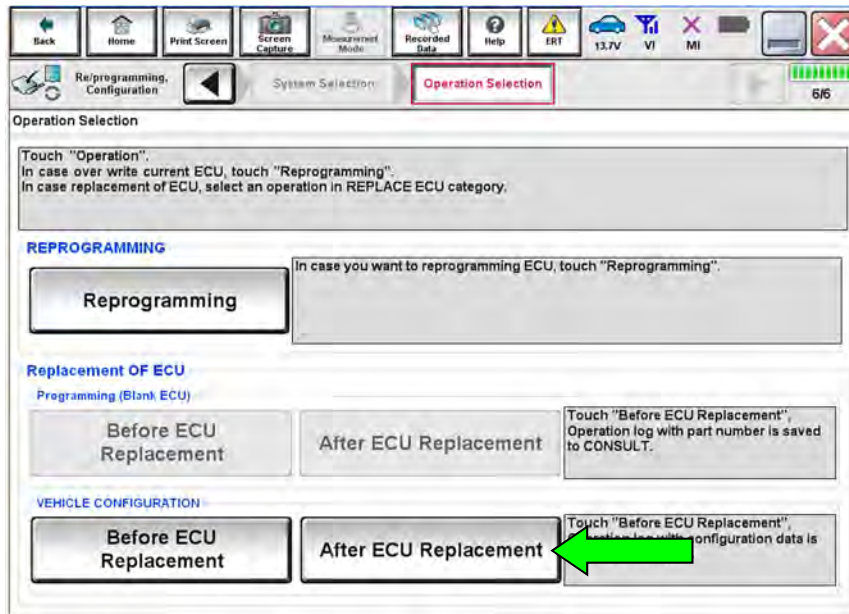

Figure 22
39. Repeat steps 10-18 to navigate to the screen shown in Figure 22.